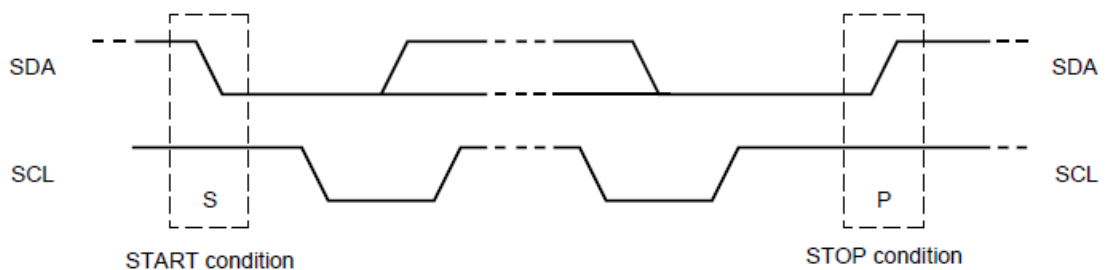

Fig.3.1 Start and Stop Condition
- Start and stop condition: A high to low transition of the SDA line while SCL is high defines a start condition. A low to high transition of the SDA line while SCL is high defines a stop condition. Please refer to Figure 3.1.